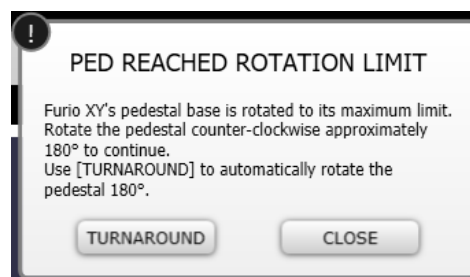

Figure 56 - Furio XY Pedestal Rotation Limit Dialog
- › reaching or exceeding pedestal orientation limits for Furio pedestals prompt the following notification shown in Figure 56. Using **Turnaround** enables automatic 180° pedestal rotation.